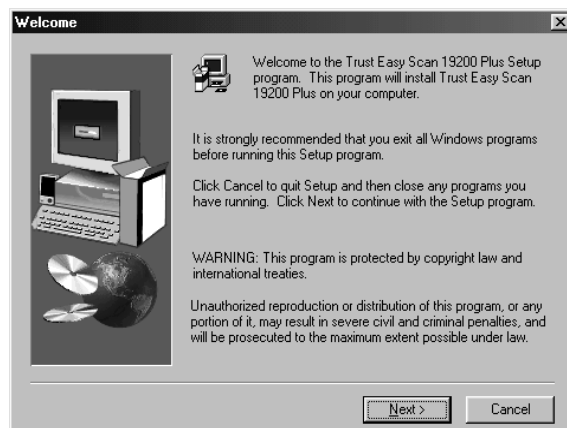

Figure 7: Driver Installation
6. Click on 'Scanner Driver'. A screen as in Figure 7 is displayed.